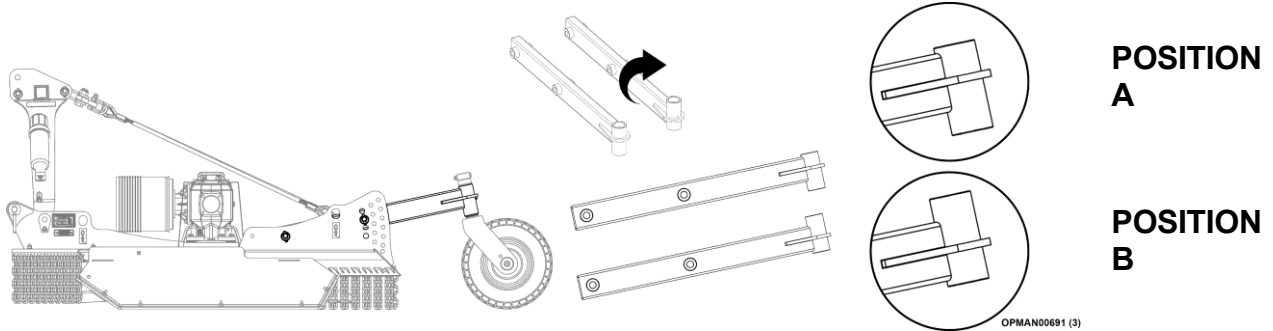

Figure 4.14
2. Wheel arm orientation (2, Figure 4.14)